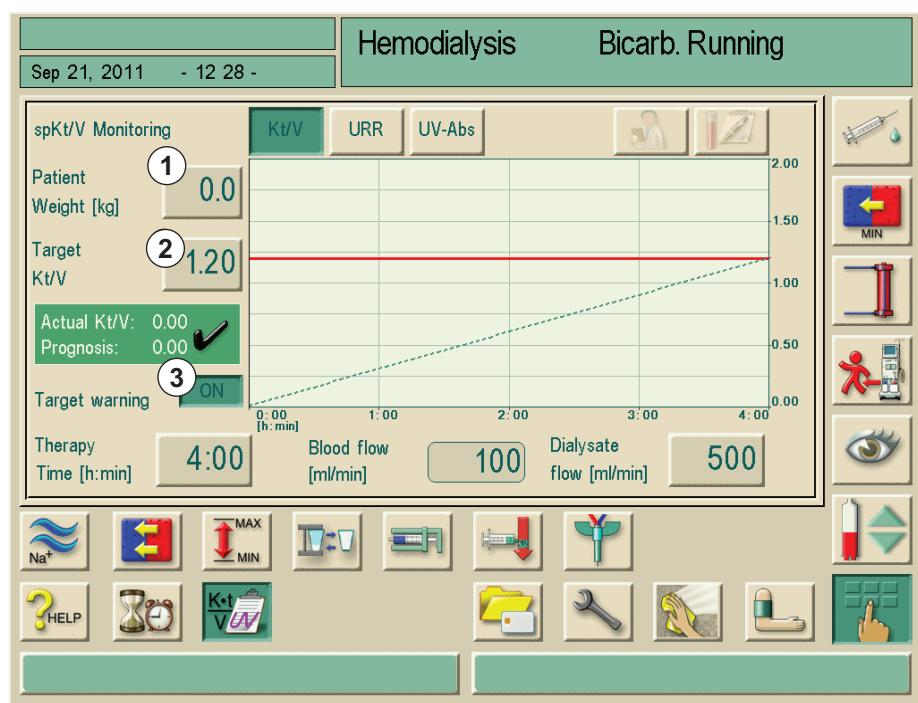

Fig. 11-14 Setting parameters
1. Input of patient weight before dialysis (Fig. 11-14, 1).
2. Input/adaptation of the target Kt/V value (Fig. 11-14, 2).
3. Enable/disable target warning (Fig. 11-14, 3).